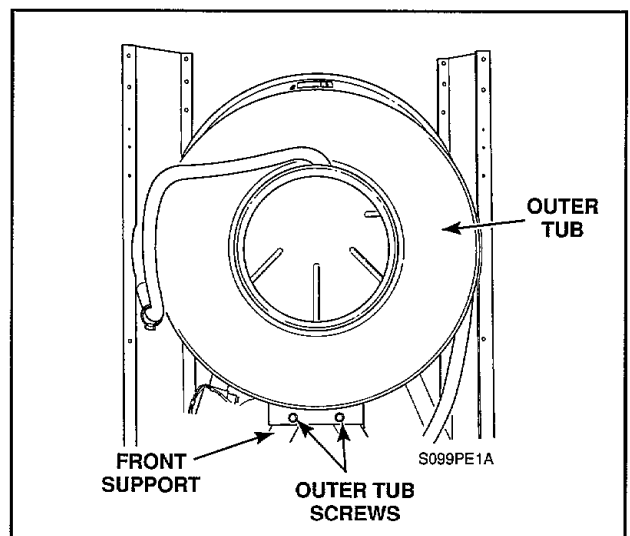

Figure 42
- Remove two screws, nuts, washers and lockwashers holding outer tub to front support, *Figure 42*.
- m. Remove two screws, nuts, washers and lockwashers holding outer tub to front support, *Figure 42*.